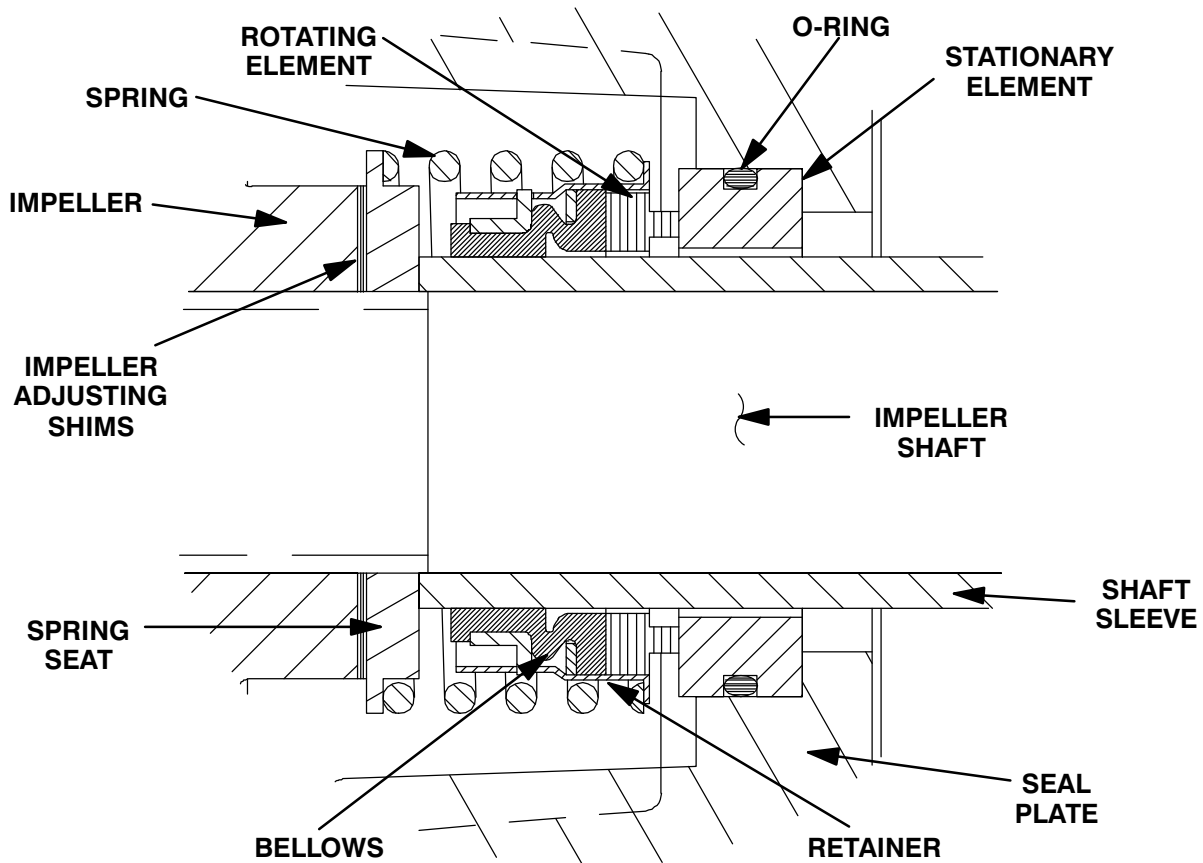

Figure 3. Seal Assembly
To ease installation of the seal, lubricate the shaft sleeve (13) with water or a very **small** amount of oil, and apply a drop of light lubricating oil on the finished faces. Assemble the seal as follows, (see Figure 3).